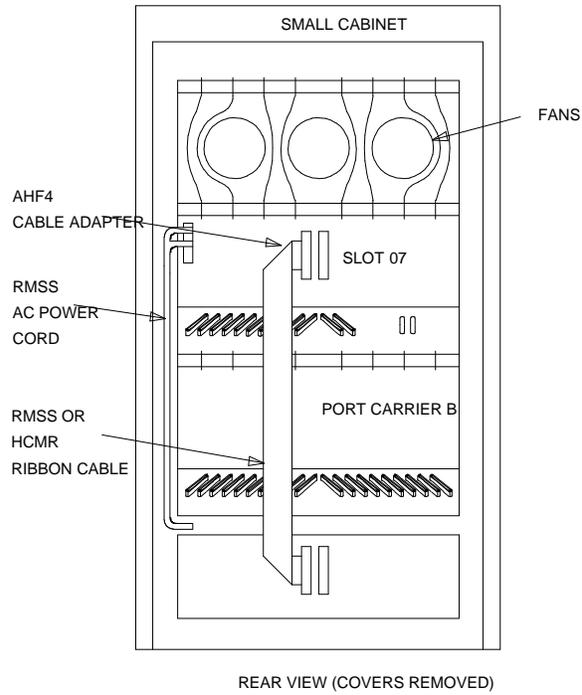

Figure 4-2. R1V3 System Cabinet
2. Disconnect the AHF4 cable adapter from behind slot "07" of control carrier "A" (see Figure 4-2).